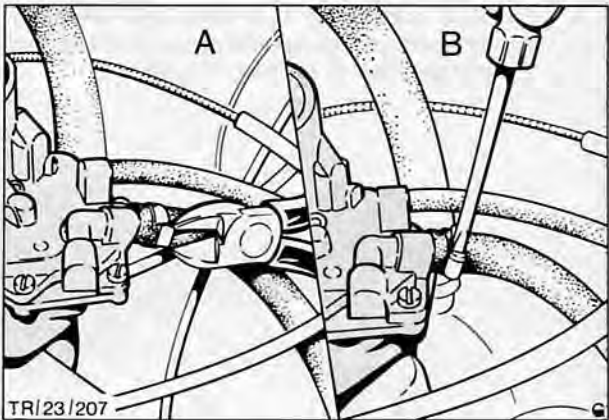

Fig. 36. Disconnecting and reconnecting carburettor supply pipe
7. Disconnect vacuum, vent and fuel feed pipes. If a crimped type hose clamp is fitted to the fuel supply pipe it must be cut free and replaced with a screw type clamp, Fig. 36.